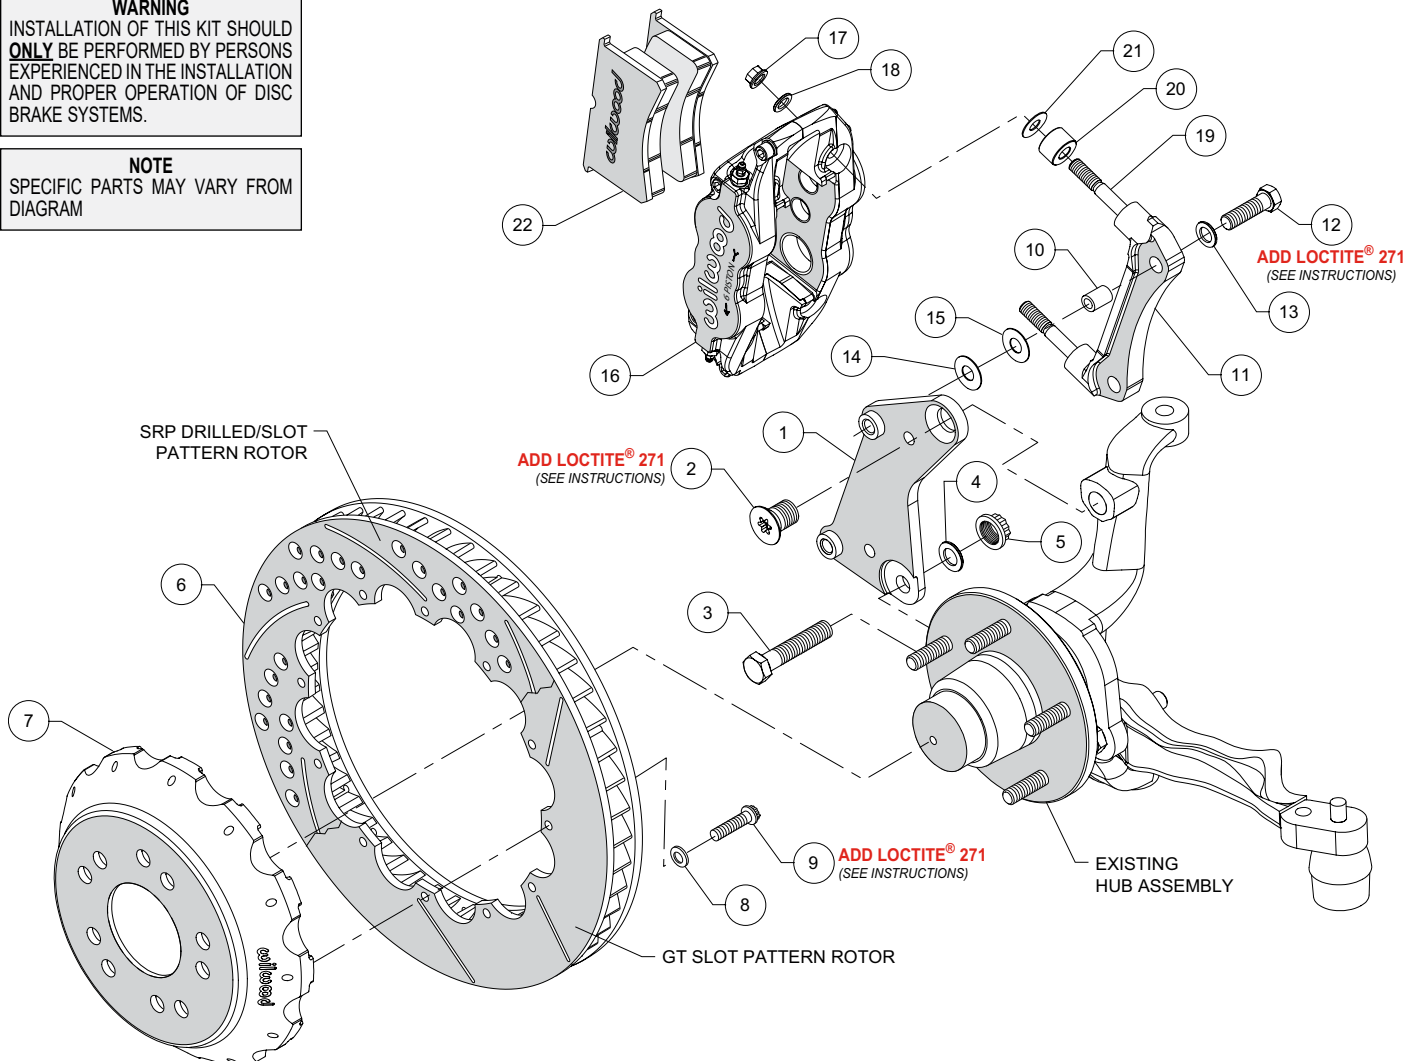

Figure 1. Typical Installation Configuration
•The radial mount caliper bracket assembly (11) should be installed first with clean, dry threads on the mounting bolts. Slide bolt sleeve (10) into the mounting holes of bracket (11). Install the bracket on the back side of the spindle/flat caliper mounting bracket (1) by sliding bolt (12) through washer (13), and through sleeve (10.) Initially place three shim washers (14) between the two brackets (1 and 11) (see Figure 1). The bracket must tighten squarely against the side of the spindle/caliper bracket. Inspect for interference from casting irregularities, machining ridges, burrs, etc. Later, after the caliper, pad, and rotor alignment has been checked, and any necessary shims have been put in place, the mount bolts should be coated with red *Loctite*® 271 and torqued to 47 ft-lbs.
•**NOTE:** This kit contains distinct right and left hand calipers that must be mounted in a specific direction, as described below. Initially place .035” thick shim (21) and one spacer (20) on each stud (19) as shown in Figure 1. Mount the caliper (16) onto the radial mount bracket (11) using lock nuts (17) and washers (18), Figure 1. Ensure that the caliper is mounted so that the largest pistons are at the rotor exit end of the caliper, in relation to the direction of rotor rotation. Temporarily tighten the lock nuts and view the rotor through the top opening of the caliper. The rotor should be centered in the caliper. If not, adjust by adding or subtracting shims (14 and/or 15) between the spindle/caliper bracket (1) and the radial mount bracket (11). Always use the same amount of shims on each of the two mounting bolts.
•Remove the caliper center bridge pad retainer bolt, nut, and tube from the caliper. Slide the brake pads (22) into place. They should install easily without interference. Check that the outside radius of the brake pad is flush with the outside diameter of the rotor face. Add or subtract shims (21) between the caliper and mount bracket to gain the proper alignment. Reinstall the center bridge pad retainer tube, bolt, and locknut. The locknut should be snug without play in the bolt or tube. Be cautious not to over tighten.
•Once all clearances have been checked, remove the wheel, caliper, hat, and rotor from the spindle and hub. Secure the spindle/caliper mounting bracket (1) to the spindle with bolts (2 and 3) using red *Loctite*® 271 on the bolt threads. Torque bolt (2) to 140 ft-lb and bolt (3) to 77 ft-lb. Remove bolts (12) from the radial mount caliper bracket (11) and coat threads with red *Loctite*® 271 and reinstall. **NOTE:** Only removing one bolt at a time, then coating the threads and reinstalling will help keep all the shims in place. Torque bolts (12) to 47 ft-lb. Reinstall the hat and rotor assembly and again use lug nuts to hold it in place. Reinstall the caliper (16), torque the caliper nuts (17) to 28 ft-lb.